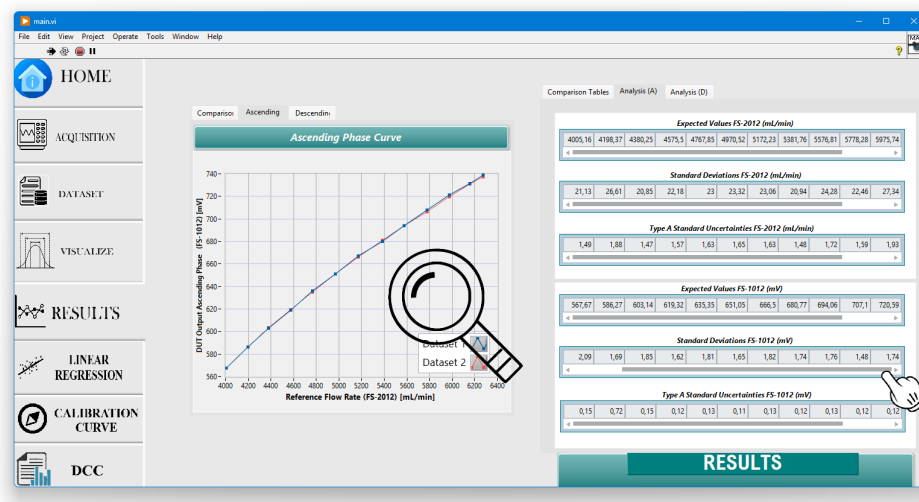

Figure 34: Visualizing the results in the Results Tab page.
Step 10) Once the datasets are loaded into the application, the user can switch to the Results tab to visualize the ascending and descending curves, and the average value, standard deviation and standard uncertainty, as illustrated in Figure 34.